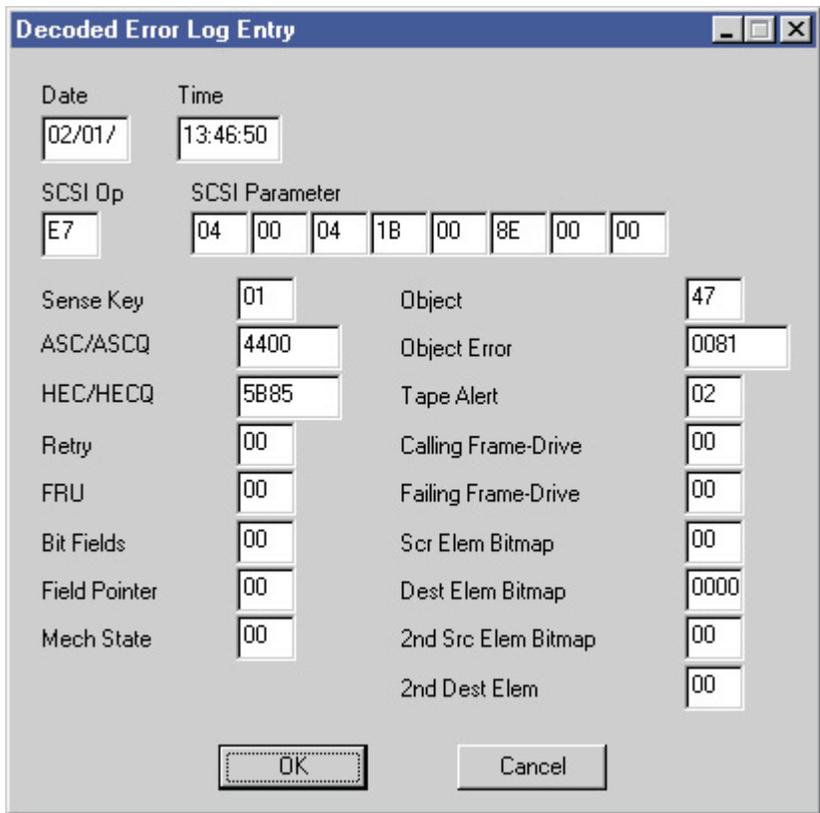

Figure 84. Error Log Screen Example
7. The error log selected will look similar to Figure 84 on page 506.